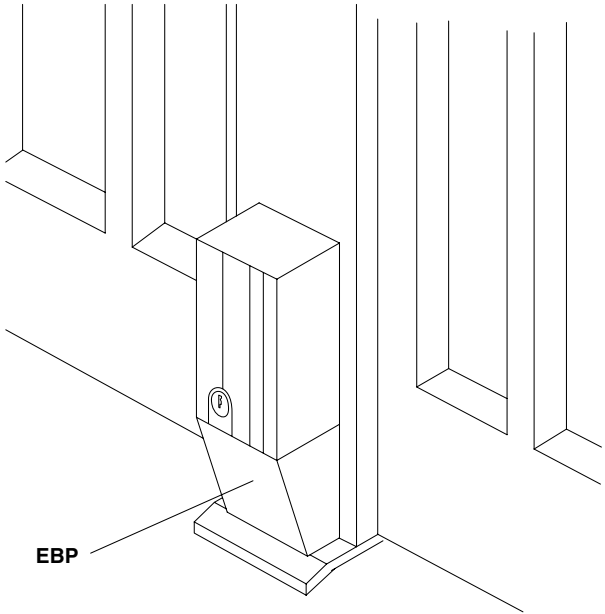

Fig. 18
- c) Set the controller upright and unscrew the cap O (fig. 18).